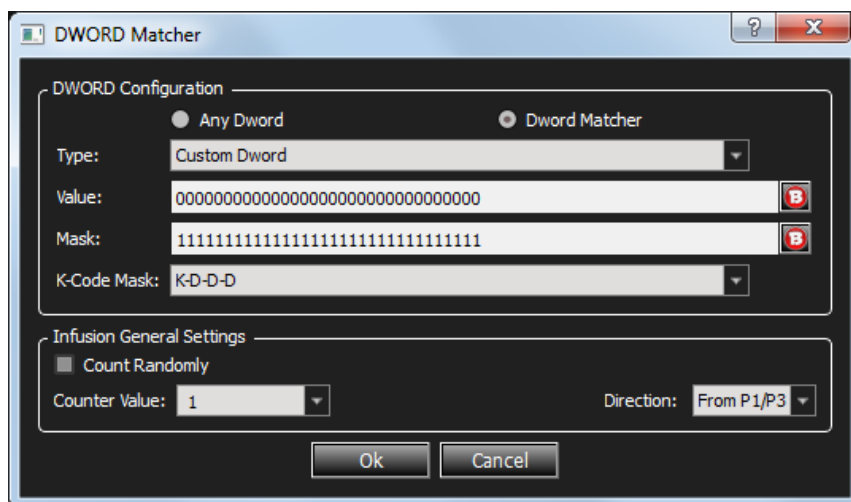

Figure 4.32: Adding an Event
3. Select **DWORD Matcher** in the Event panel and place it in the Global Rules panel (see Figure 4.32 on page 210).